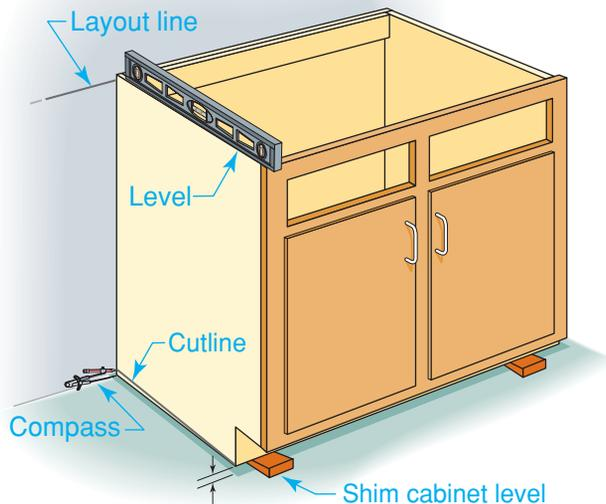

Figure 27-22 Leveling the Cabinet
5. Cabinet installation generally begins with a corner cabinet, if there is one. However, the installer may decide to begin with other cabinets depending on the layout of the room. In either case, align the top back edge of the first cabinet with the layout line. Use wood shims as necessary until the cabinet is plumb and level, as shown in **Figure 27-22**. If the floor and/or wall is uneven, the base of the cabinet may have to be scribed and material removed. For more on scribing, see page 767 in